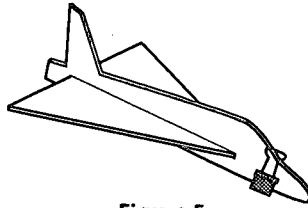

Figure 5
- B. Have students conduct practice runs to become familiar with the aircraft and PGC. Have students attach a small binder clip to the aircraft to give it some weight. See Figure 5. The binder clip can be adjusted either closer to the nose or closer to the tail anytime during the test flights to ensure that the aircraft is achieving maximum flight.